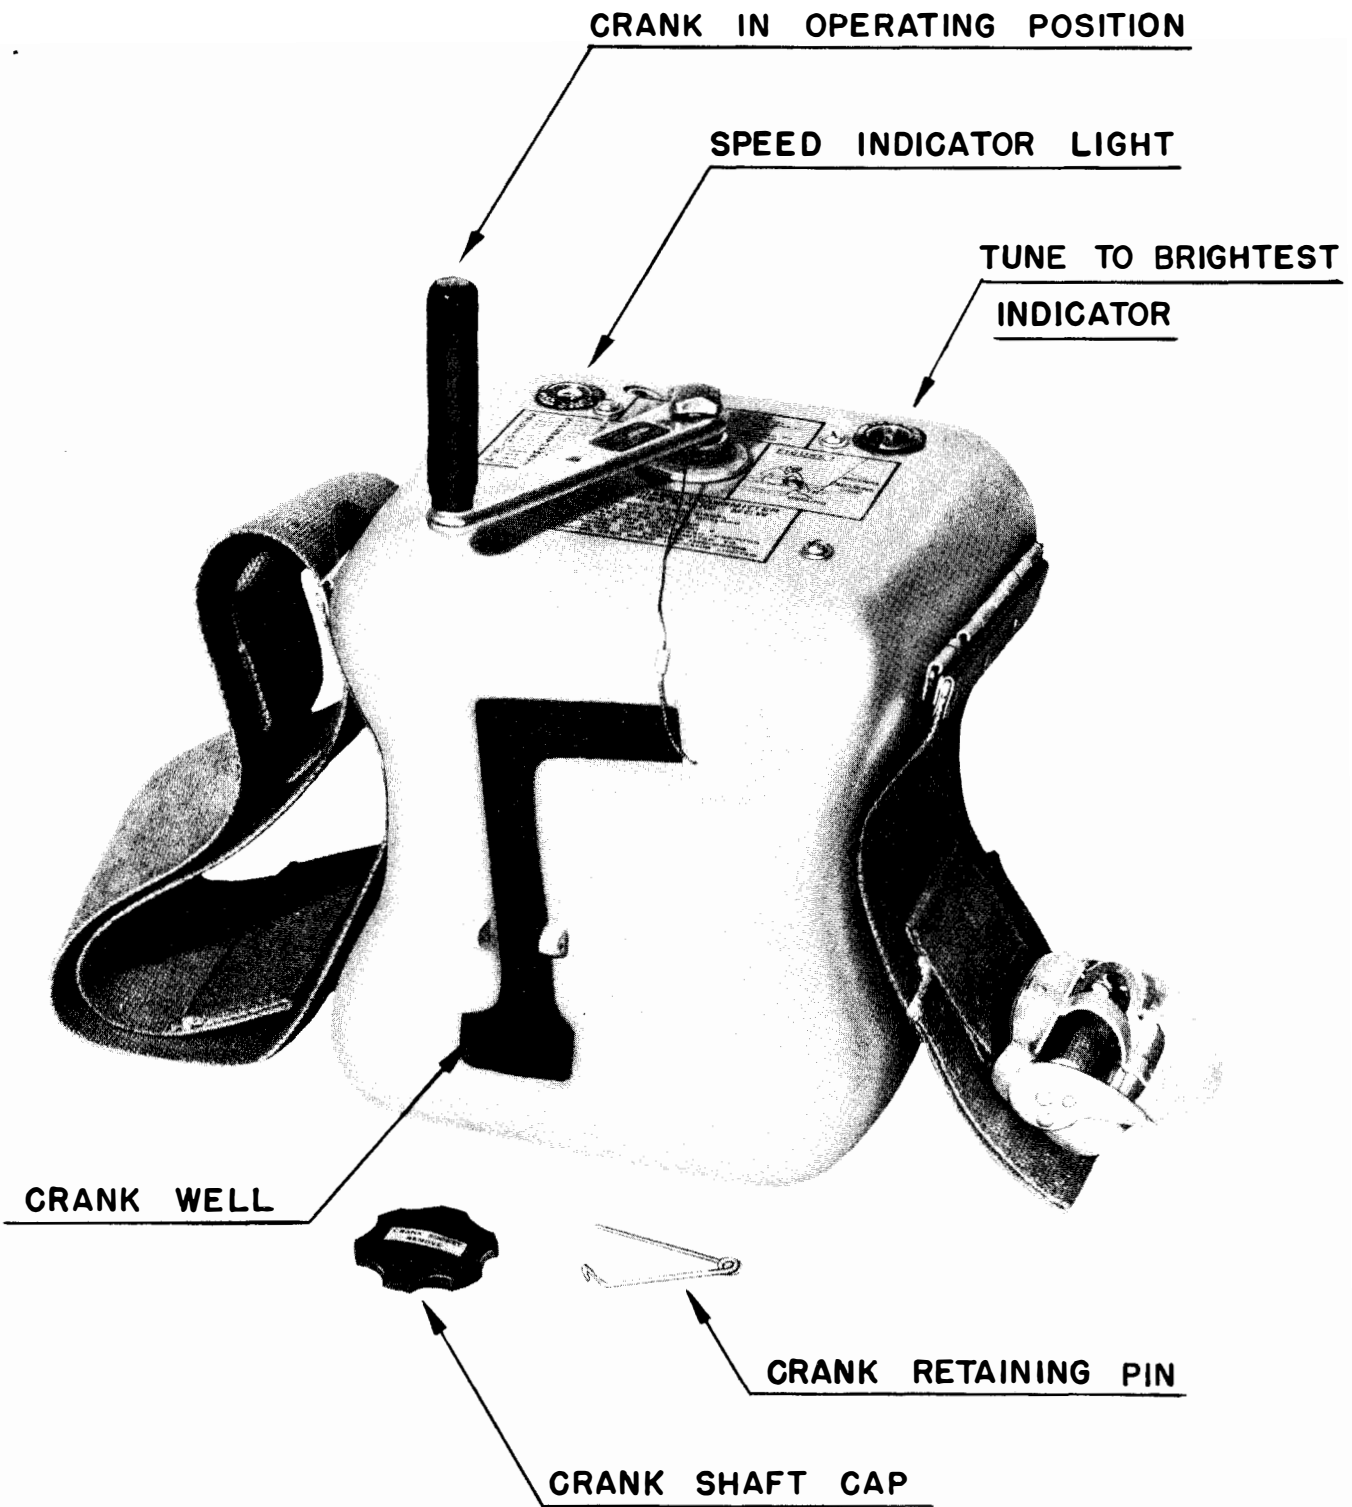
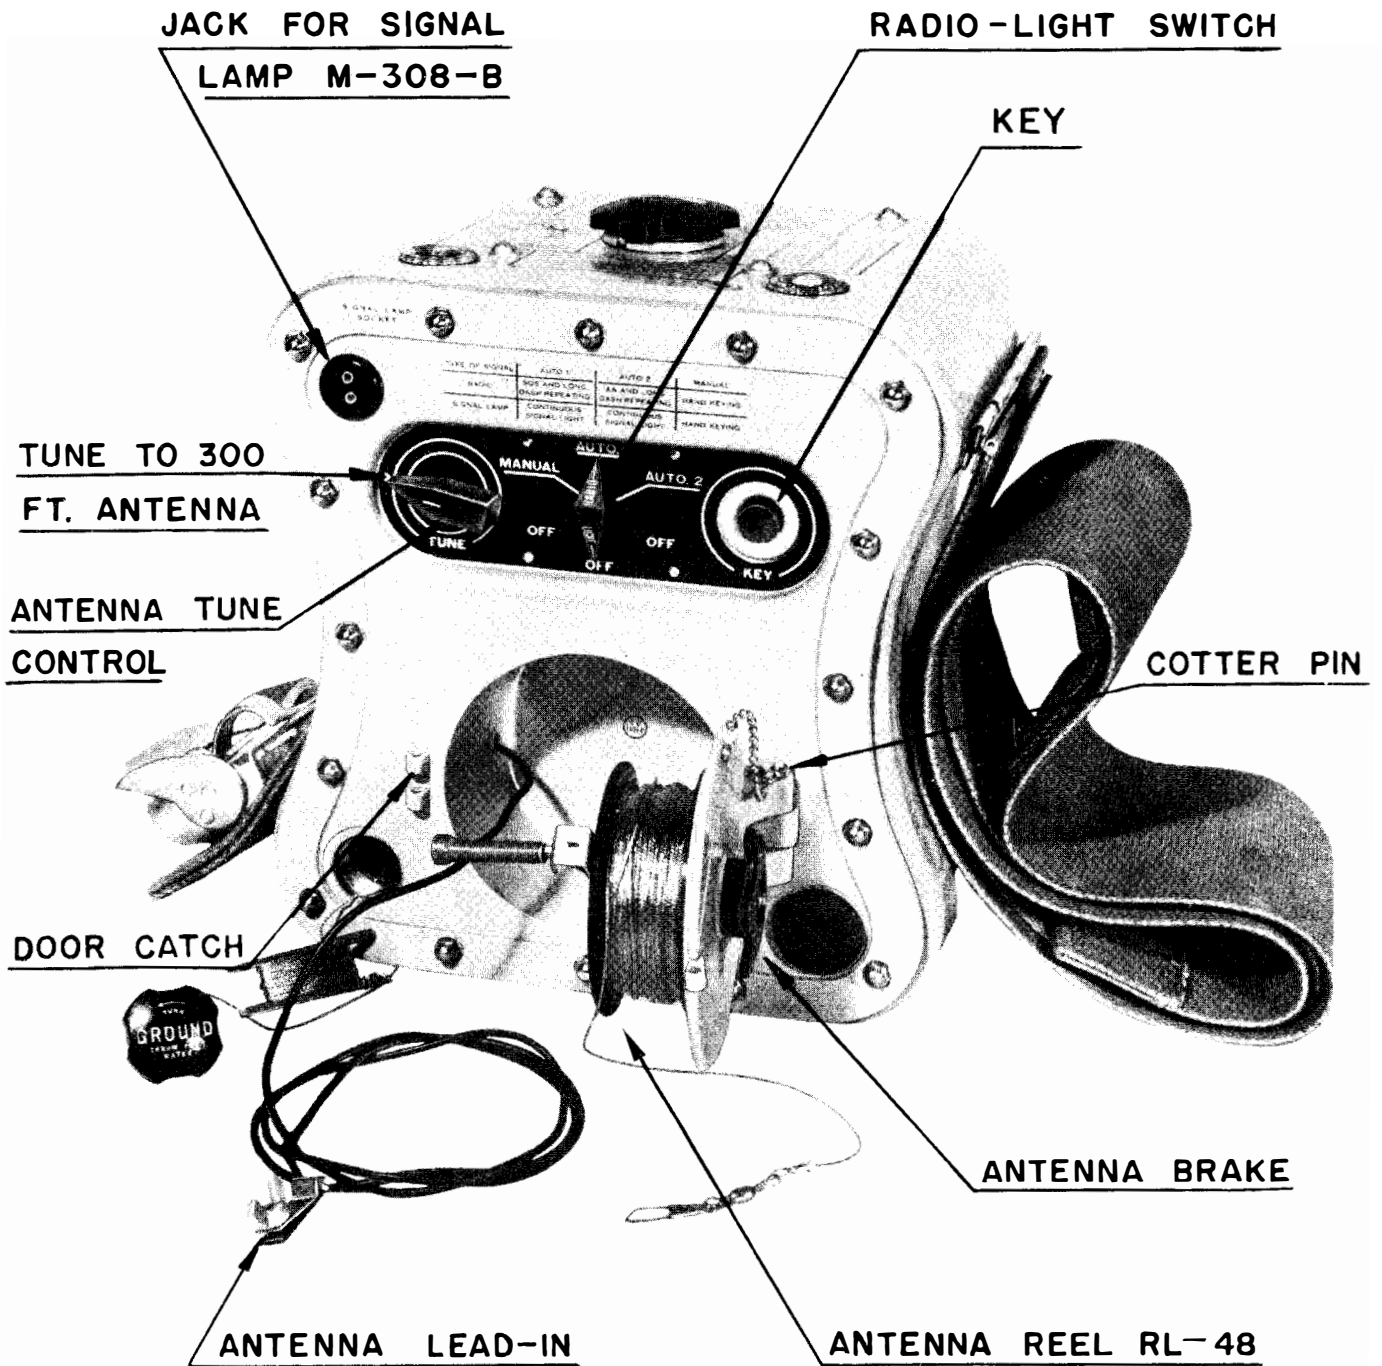

Figure 13—Radio Transmitter BC-778-E, Rear Oblique View
Figure 14—Radio Transmitter BC-778-E, Front Oblique View
are grouped in the elongated oval depression on the front panel. Reel RL-48, holding 300 feet of Antenna Wire W-147 or W-148 (see fig. 14) is in a compartment also mounted on the front panel. A strap is provided for securing the transmitter between the legs of the operator (see figs. 13 and 20). Various models of the radio transmitter differ only in details of electrical or mechanical design. The differences are summarized as follows:
(2) Bag BG-110-A (see fig. 9) contains the radio transmitter with Hand Crank GC-18-A (see fig. 13) affixed. Permanently attached to this bag is Parachute M-276-A with static cord and snap fastener. Included in the bag is a second copy of this handbook of instructions.
b. Antenna Reel RL-48 is accessible from the transmitter front panel by removing the cotter key and opening the antenna-reel compartment door. If you have either Radio Transmitter BC-778-D or Radio Transmitter BC-778-E, keep the door open by sliding the cotter key into the holes provided at the door hinge in these two models (see fig. 14). Take enough slack wire from the reel to attach to the kite or the balloon. Adjust brake tension on the reel and maintain a slight tension by rotating the BRAKE knob clockwise.
k. Remove the cap located at the top center of the transmitter, making the crank socket available (see fig. 13). In the well on the back of the transmitter is Hand Crank GC-18-A. It is affixed to the case by a leash and is made available by the removal of the locking pin. The leash is long enough to enable the crank to reach the socket and must not be broken. Insert the crank into its socket and tighten the thumb screw. Save the cap as it should be replaced if crank is removed.
Operating the transmitter requires a comparatively high turning torque. To assure stability so that this may be accomplished, a belt assembly is affixed to the case of the transmitter (see figs. 14 and 20). The operator will assume a sitting position and strap the unit between the legs just above the knees, with the front panel facing away from him. Pass the strap over the left leg. Next, bring it underneath both legs, and buckle it above the right leg. The equipment is now ready for use.
b. Rotate the crank in a clockwise direction at approximately 80 r.p.m. When sufficient speed has been attained, the ballast lamp (marked SPEED INDICATOR KEEP LIGHTED; see fig. 13) located on the top of the unit will light. Faster crank speeds are ineffective, as the transmitter contains automatic voltage-regulating and governing devices.
c. Continue cranking, allowing at least 20 seconds for the filaments of the vacuum tubes to warm. Next, tune the antenna to resonate with the transmitter. Accomplish this by adjusting the TUNE control so that maximum brilliance of the TUNE TO BRIGHTEST indicator (see fig. 13) is obtained. If the entire antenna is out (300 ft.) the TUNE knob will be at about the "9 o'clock" position. This approximate position is marked on the panel. If a shorter antenna is used, correct tuning will still be indicated at the point of maximum brilliance, but with the knob at a different position on the panel. In bright sunlight it may be necessary to shade the TUNE TO BRIGHTEST indicator so that the point of maximum brilliance may be observed. The indicator will flash off and on with the keying of the transmitter, indicating that radiation is occurring.
f. In the MANUAL position, the operator, by manipulating the push button marked KEY (see fig. 14), may send his own telegraphic transmissions. This button KEY is manipulated most conveniently with one of the first two fingers of the left hand, arm rather than finger motion being desirable. Should a second person be available, one might crank and the other telegraph.
Signal Lamp M-308-A or M-308-B may be used for visual signaling at night if an aircraft is heard. This does not necessitate an antenna. Merely remove the transmitter from its bag and insert the crank in its socket as instructed previously. Next, obtain the signal lamp from the accessory bag. Plug the cord attached to the signal lamp into the socket at the upper left corner of the control panel on the transmitter (see fig. 14). Strap the transmitter between the legs, set the RADIO-LIGHT selector-switch knob so that the end marked LIGHT points either to AUTO 1, AUTO 2, or MANUAL. In either of the AUTO positions, con-
e. The automatic keying mechanism has code wheel E-101A, E-101B, and E-101C consisting of three ledges which contain code characters as raised surfaces. As these discs are rotated, they actuate a set of contacts K-102A, K-102B, and K-102C which key the transmitter. The mechanism also contains cam switch E-103 which operates switches S-104A and S-104B, completing a cycle each forty seconds. The purpose of this cam is to change the characters of the transmitted signal every twenty seconds. The KEY (S-102) is a push button used to key the transmitter manually. The character of transmission is selected by the six-position switch S-103. A choice of AUTO 1, AUTO 2, and MANUAL is available for radio transmissions. The AUTOMATIC positions for the signal light provide only continuous light (except in Radio Transmitter BC-778-A or BC-778-B, which provide automatic keying of the light); the MANUAL position allows signal-light keying. Signal-light jack J-102, located on the front panel (see fig. 14), provides for plugging in the signal-light assembly.